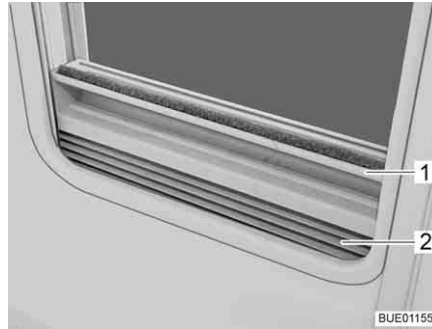

Fig. 43 Roman shade
- Grip the Roman shade (Fig. 43,2) in the middle of the holding bar (Fig. 43,1), pull it upwards and then release it at the desired height. The Roman shade will stay at this height.